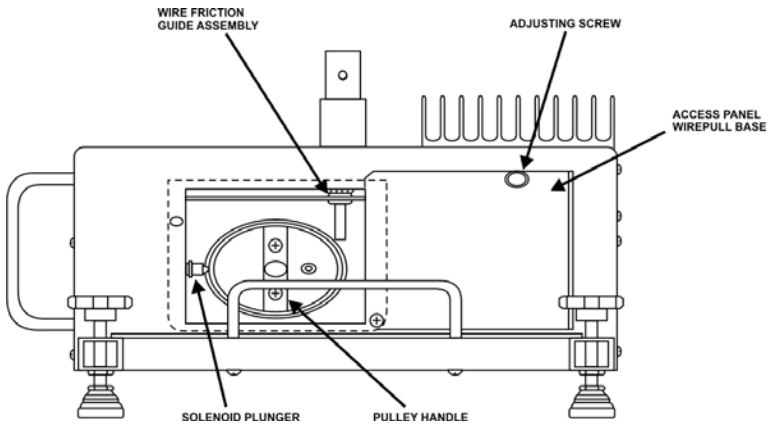
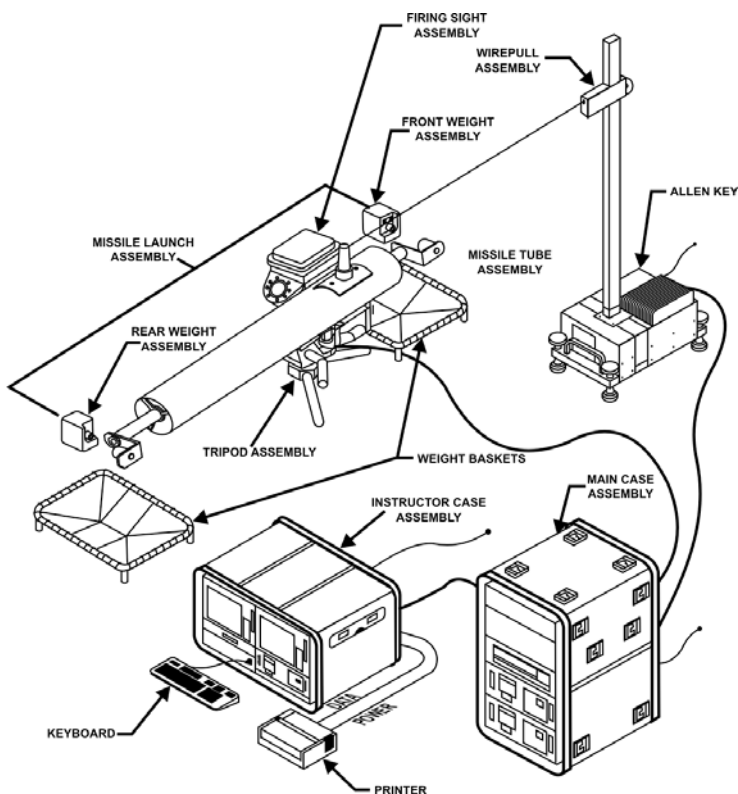

Figure 4-4: Wire Pull Assembly (WPA) Base
Figure 4-5: Assembly Diagram for the EVIGS
17. **Assemble.** Set-up requires no special tools and can be completed in minutes. To assemble the EVIGS (see Figures 4-5 and 4-6):
- j. assemble the wire-pull assembly (WPA) (see Figure 4-4) and plug it into the rear of the MCA as shown in Figures 4-5, 4-6 and 4-7;